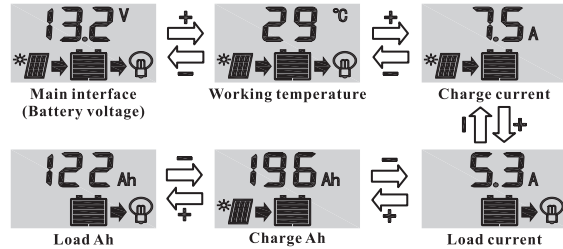

Figure 1
- +** : Interface loop switch button, use the button to cycle between pages in each switch cycle sequence shown in (figure 1). Moreover, this button can perform the function of “add” in the parameter setting state.